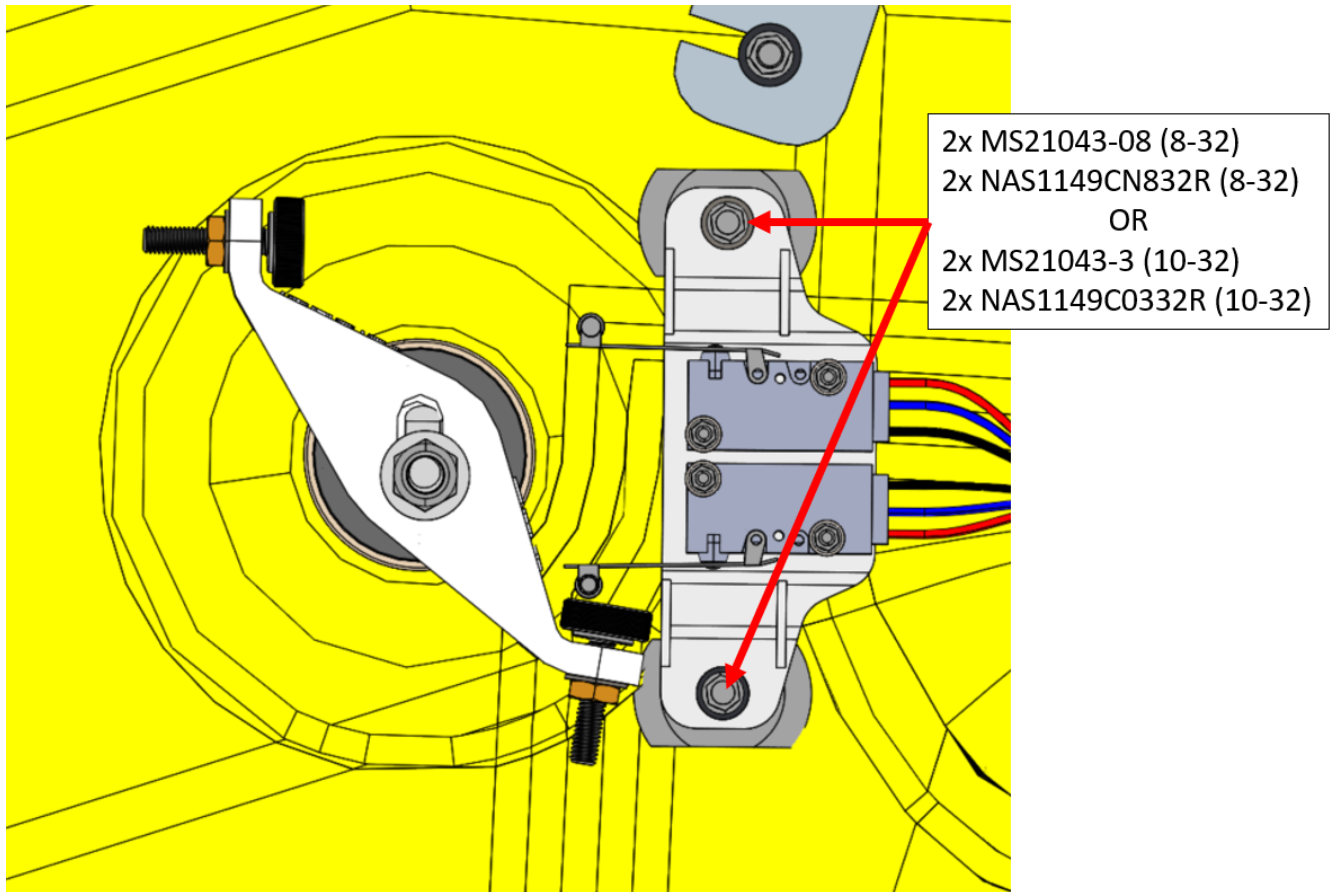

Figure 10. Installed limit switch subassembly; (1.0 config: Orient 90° clockwise)
10. Using isopropyl alcohol, clean surfaces where lubricant will be applied. Apply ICA012078 Tef-Gel to the threads of the studs. Install limit switch assembly onto studs as shown in **Figure 10** below with: